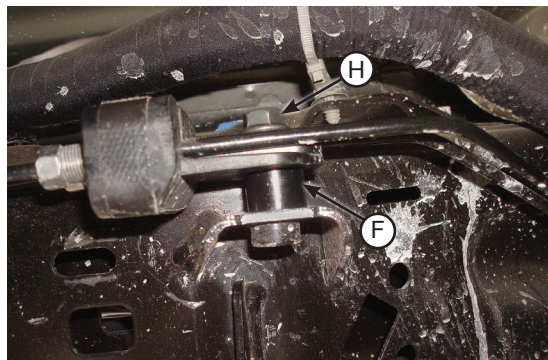

fig. D.5
5. The brake line holder that is on the inside of the left side frame, above the axle, will need to be spaced up to make room for the upper brace (Fig. D.5). Do this by removing the stock bolt (discard), then insert the spacer (F) between the holder and bracket; finally attach the line holder back onto the bracket using the M8-1.25 x 35 hex flange bolt (H). Tighten securely.